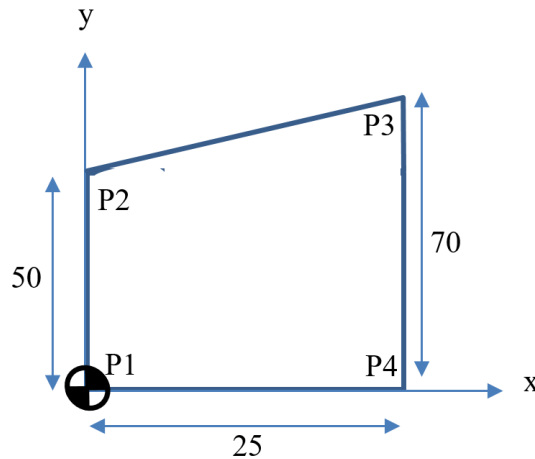

Figure 3(c) / *Rajah 3(c)*
- (c) Based on **Figure 3(c)**, write a CNC coordinate for P1, P2, P3 and P4 using the following system: